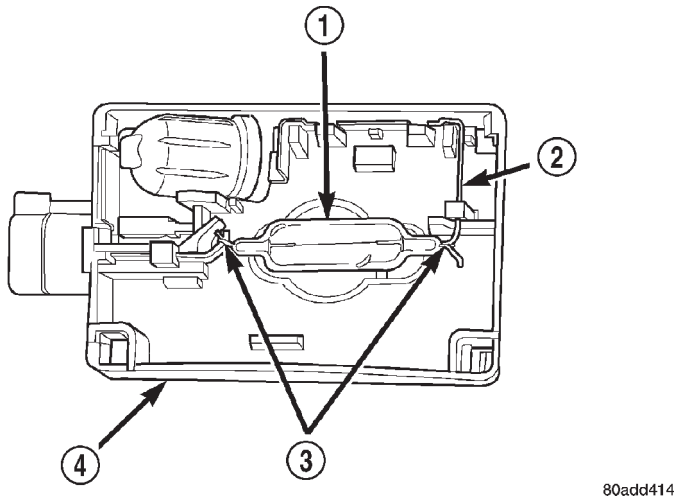

Fig. 8 Underhood Lamp Bulb
- (3) Depress the bulb terminal inward (Fig. 8) to release the bulb.